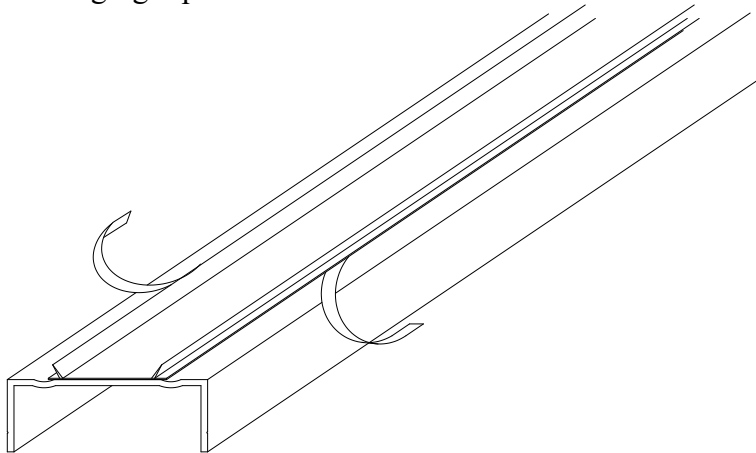

Figure 11
4. If your system is using Silvis Seals you must apply them to the LOWER "A" channels now.. Apply the Silvis Seal to the appropriate "A" channels by removing approximately 2 ft. of backing tape. Starting at the end of the "A" channel, apply the Seal being careful to orient the Seal in line with the "A". Lay the rest of the Seal on to the channel. Carefully pull the remaining backing tape from the "Seal" and using light pressure adhere it to the aluminum as shown in Figure 11.